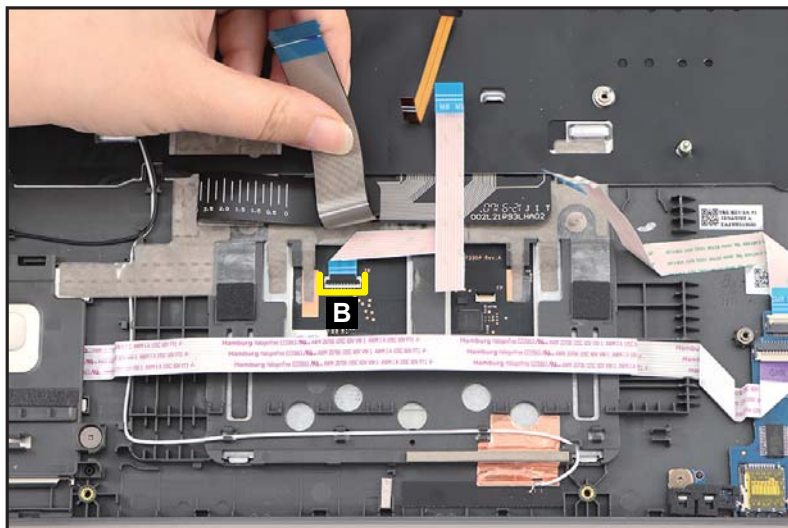

Figure 1-45. Touchpad Module Removal
2. Lift the keyboard FPC. Then disconnect the touchpad FFC from the touchpad module connector (B) (Figure 1-45).